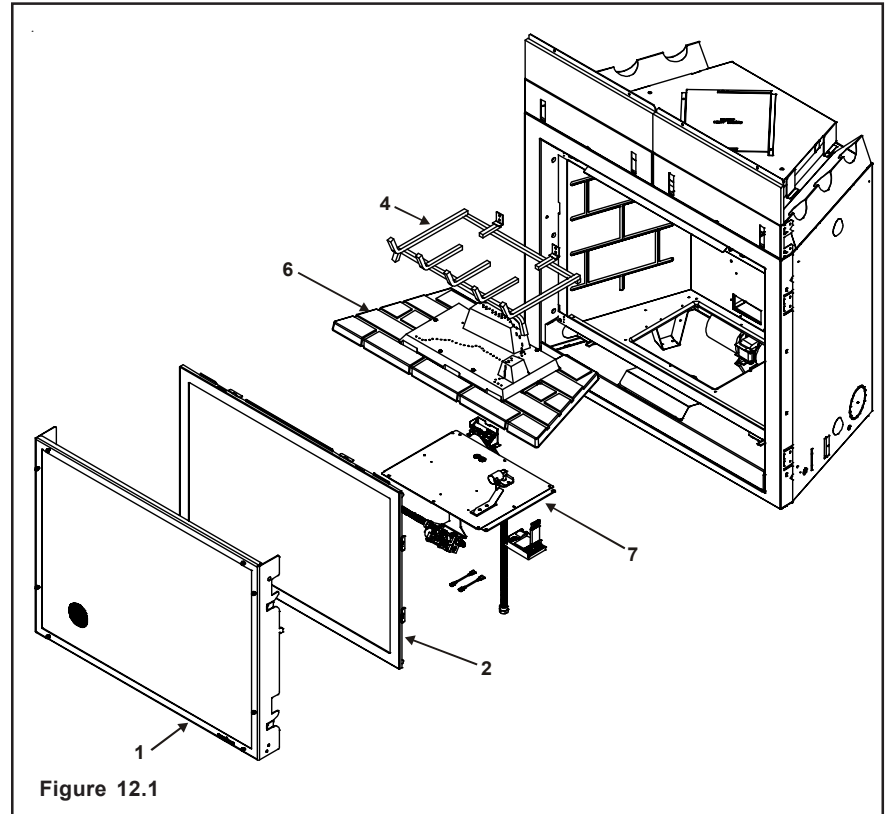

Figure 12.1
- 1 - Remove front from the fireplace (see Figure 12.1).
- 2 - Remove glass assembly from the fireplace (see Figure 12.1).
- 4 - Remove grate (see Figure 12.1).
- 6 - Remove burner assembly (see Figure 12.1).
- 7 - Remove valve assembly (see Figure 12.1).